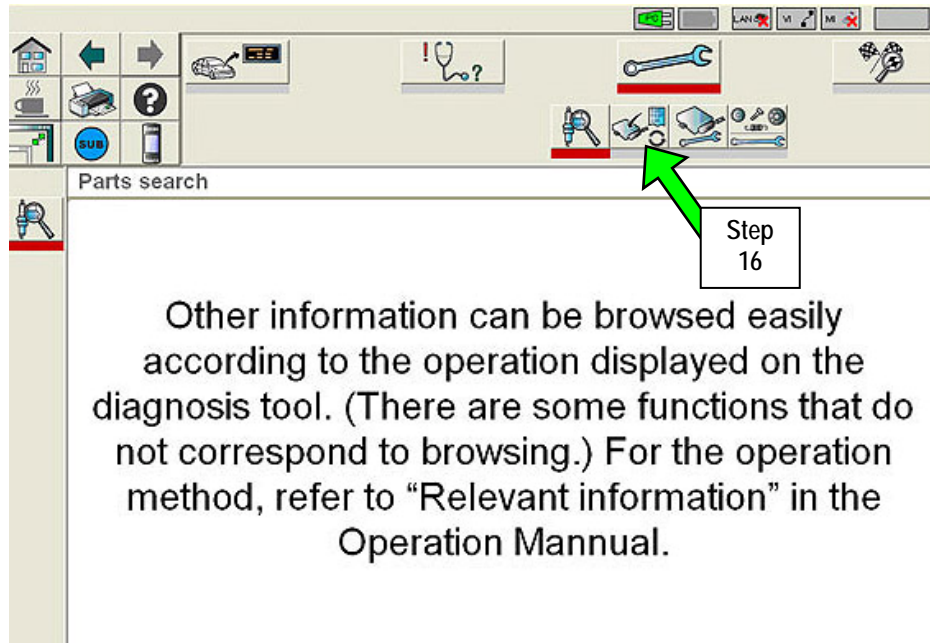

Figure 5
16. Select the "ECM Reprogram" symbol. (See Figure 5.)